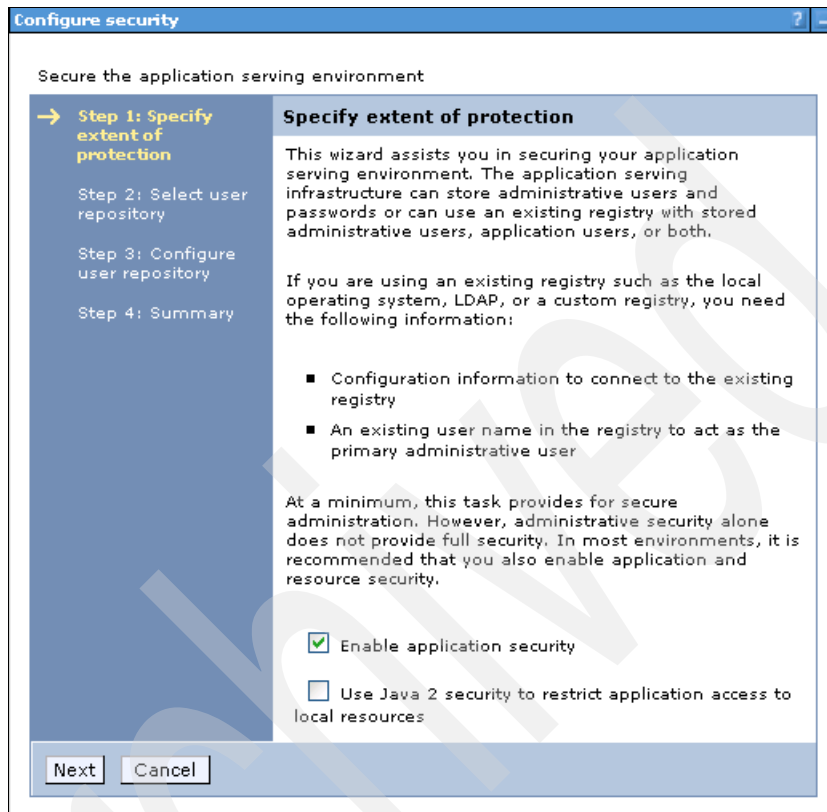

Figure A-15 Security Configuration Wizard: Step 1 for WebSphere Business Monitor
3. In the Step1: Specify extent of protection panel (Figure A-15), ensure that **Enable application security** is selected and click **Next**.